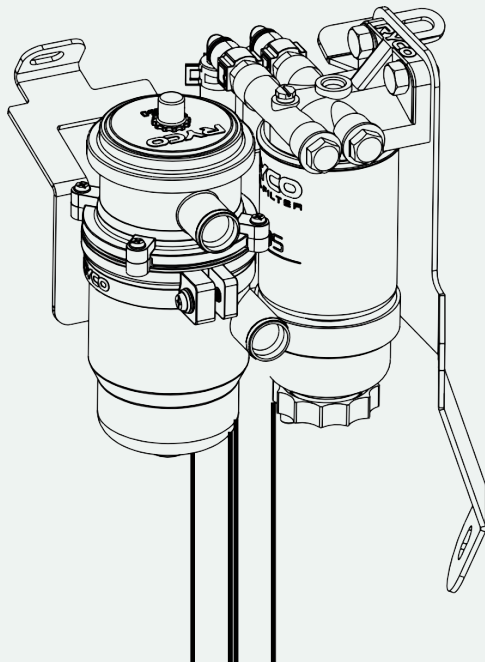

FIGURE 7.1
- 1 Mount the catch can onto the bracket by sliding the RCC360 nylon bracket onto the catch can mounting position on FB9807C, rotate it so it is facing toward the front of the engine bay and tighten the plastic bracket retaining screw, as per Fig. 7.1.